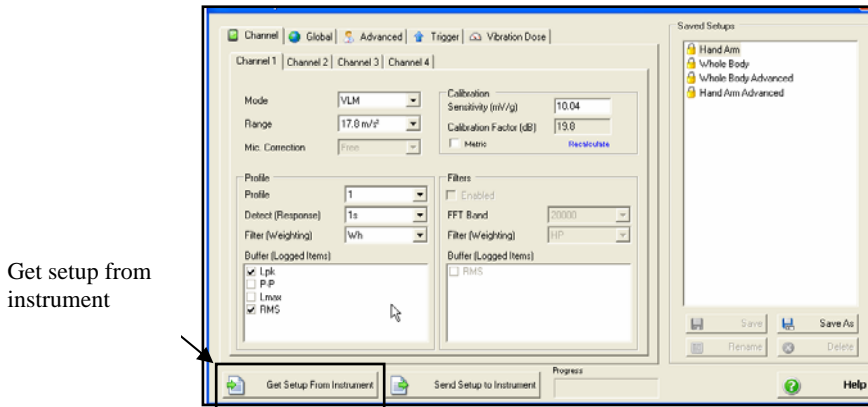

Figure 8-20: Get setup from instrument
3. In the setup screen, click on **Get setup from instrument** (see Figure 8-20).